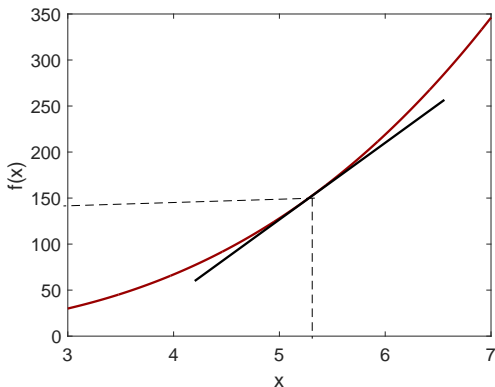

Figure 1: Approximation of a nonlinear function at  $x^0 = 5.3$ .
Figure 1 illustrates an example of linear approximation of a nonlinear function where  $x^0 = 5.3$ ,  $f(x^0) = 140$  and  $\frac{df(x)}{dx}|_{x=x^0} = 85$ . It is seen that within the region where  $x$  is close to  $x^0$ ,  $f(x)$  is closely approximated by the first order Taylor series expansion (3).